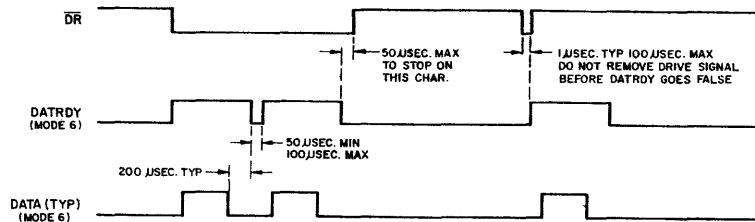

Figure 3-5. Timing Diagram for Reader
The following procedure should be followed when reading a tape. Refer to Figures 3-5 and 3-6 during the following descriptions.
- b. Apply the step pulse to the drive left (DL\*) line, pin 17 of J2, or the drive right (DR\*) line, pin 16 of J2 as follows. Make sure the Data Ready signal at pin 9 of J2 is in the true condition depending upon mode and that the (EXTINH)\* input signal at J2, pin 15, is false ( $+2.4 < V < +5.0$  or open circuited). See Table 3-1 and Figure 3-5.
- b. Apply the drive left (DL\*) signal to pin 17 of J2 or the drive right (DR\*) signal to pin 16 of J2 as required. Make sure the Data Ready signal at pin 9 of J1 is in the true condition depending upon mode and that the (EXT INH)\* input signal at J2, pin 15, is false ( $+2.4 < V < +5.0$  or open circuited). See Table 3-1 and Figure 3-5.